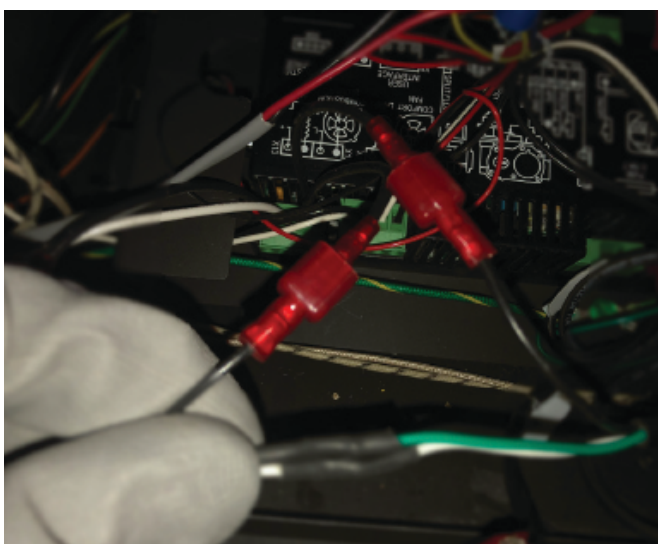

Figure 6.17 - Wire Harness - Quick Connection to Black Leads
6. Now we will connect the power vent wire harness to the control module and fireplace wire harness. The power vent wire harness has the black hot wire split with two female quick connections on either end. Plug these into the black leads that have quick connections coming off the control module in the X12 combustion blower location. See Figure 6.17.